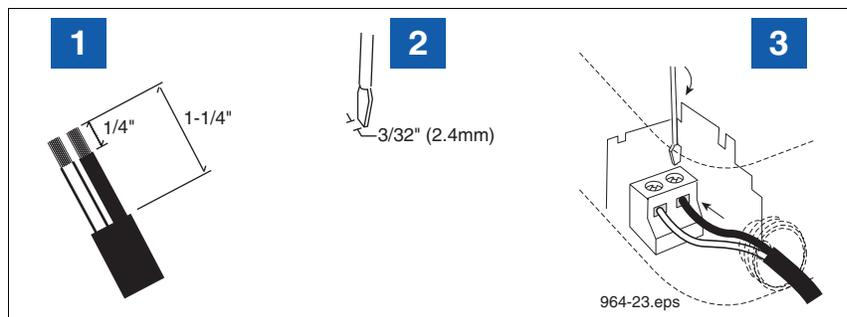

Figure 15. Connecting sensor wiring to sensor terminal block
4. Strip back cable jacket and wires as shown in Figure 15.
LEGEND FOR NUMBERED BOXES IN Figure 15
5. Slide the nut over the cable. Choose the correct size bushing and slide it over the cable. Dress the cable jacket according to the dimensions in Figure 15. Insert the cable into the appropriate opening at the bottom of the housing. Insert each wire into the appropriate terminal and tighten. Leave a small amount of slack in each wire. Slide the bushing into the bottom of the housing. Hand tighten the nut.
9. Slide the nut over the cable. Choose the correct size bushing and slide it over the cable. Dress the cable jacket according to the dimensions in Figure 15. Insert the cable into the appropriate opening at the bottom of the housing. Insert each wire into the appropriate terminal and tighten. Leave a small amount of slack in each wire. Slide the bushing into the bottom of the housing. Hand tighten the nut.